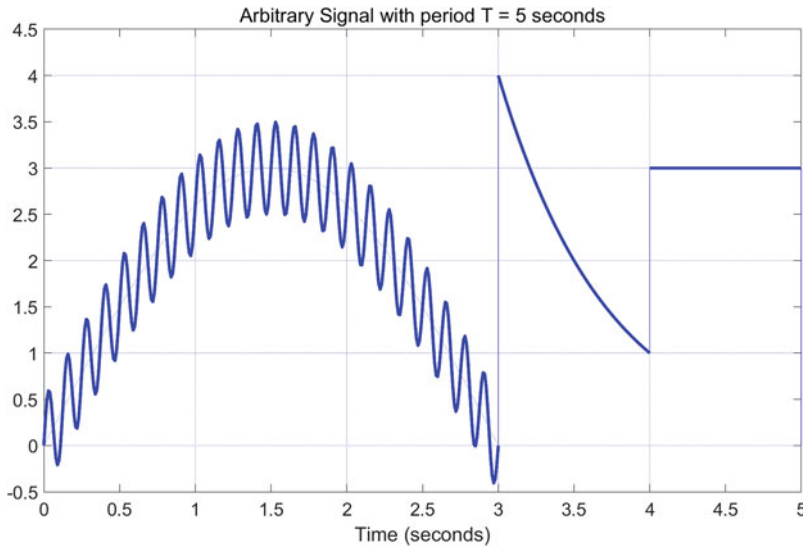

Fig. 10.2: An arbitrary signal given by Eq. 10.10
1. Intel. *Cyclone V Hard Processor System Technical Reference Manual*. https://www.intel.com/content/dam/www/programmable/us/en/pdfs/literature/hb/cyclone-v/cv_5v4.pdf. Figure 10-2, Cortex-A9 MPU Subsystem Block Diagram, page 10-3, Accessed 24 Jun 2022
Let us show how this works with the following fairly complicated arbitrary piecewise waveform that has a period of $T = 5$ seconds. The waveform has three segments given by the following function and is shown in Fig. 10.2.